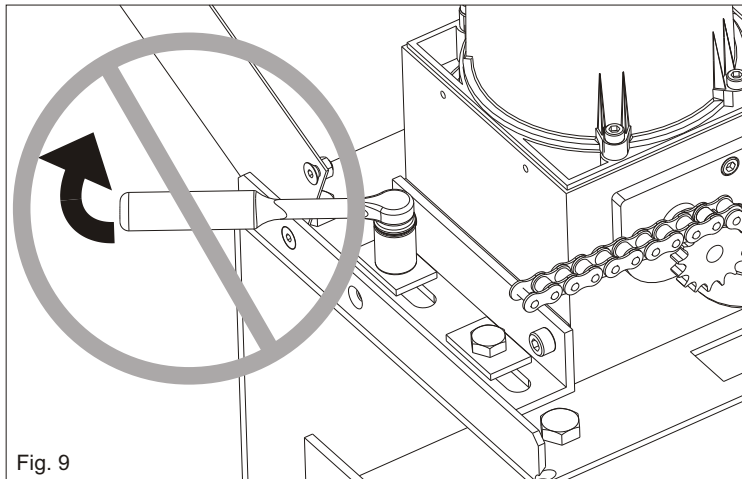

Fig. 9
1) Do not change position of the motor-reducer on the foundation plate (Fig. 9)